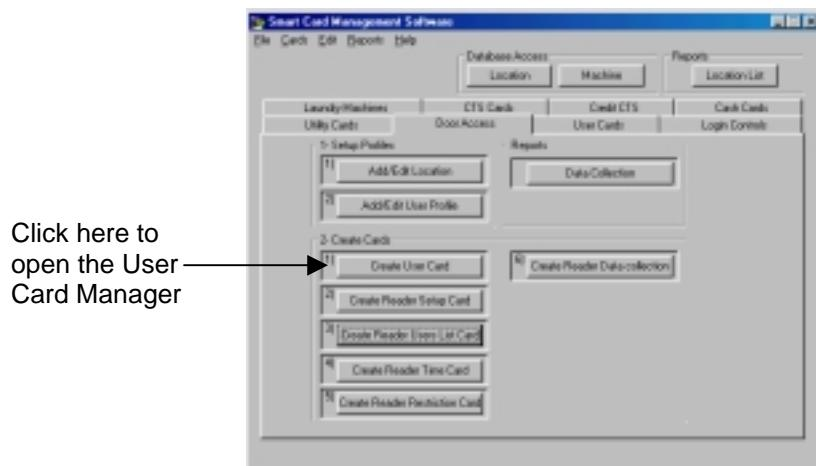

Figure 11.27 Opening the Door Access User Card Manager
1. Click the Create User Card button in the Door Access Manager (Figure 11.27).